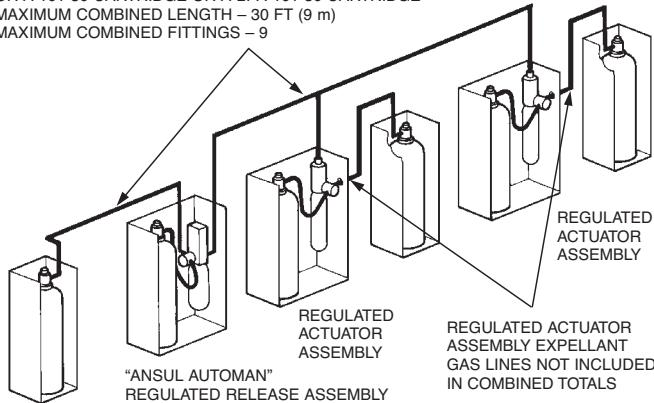

FIGURE 101
- 3. If an expellant gas line is connected to the regulated release assembly along with an actuation gas line, the total combined length of the actuation and expellant gas line **must not exceed** 30 ft (9 m) when using a "double-tank" nitrogen cartridge or a LT-A-101-30 nitrogen cartridge or a 101-30 carbon dioxide cartridge. See Figure 101.
- 3. If two tanks are connected to the regulated release assembly in a multiple-tank system arrangement, the total combined length of the actuation and expellant gas lines **must not exceed** 30 ft (9 m) when using a "double-tank" nitrogen cartridge, an LT-A-101-30 nitrogen cartridge, or a 101-30 carbon dioxide cartridge. See Figure 101.